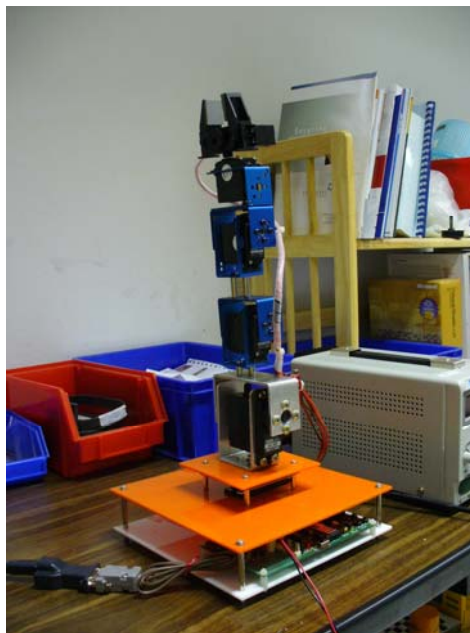

Figure 20 The complete robot
3. Attach the servo controller board on to the bottom acrylic board as shown in Figure 20. Put four screws to fix the bottom acrylic board with the PCB stands. There we have the complete robot.